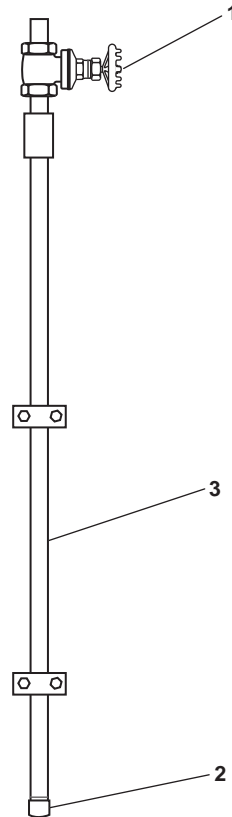

Figure 8. O2 Level Fire Main Drain Down Valve
3. Verify that the O2 level fire main drain down valve (figure 8, item 1) is CLOSED.
4. Remove the cap (figure 8, item 2) from the O2 level fire main drain down valve piping (figure 8, item 3).
5. Install a suitable hose on the O2 level fire main drain down valve piping (figure 8, item 3) and run the remainder of the suitable hose to the exterior of the O1 level.
6. OPEN the O2 level fire main drain down valve (figure 8, item 1) and drain the O2 level fire main.
7. After the O2 level fire main is drained, CLOSE the O2 level fire main drain down valve (figure 8, item 1).
8. Remove the suitable hose from the O2 level fire main drain down valve piping (figure 8, item 3).
9. Install the cap (figure 8, item 2) on the O2 level fire main drain down valve piping (figure 8, item 3).